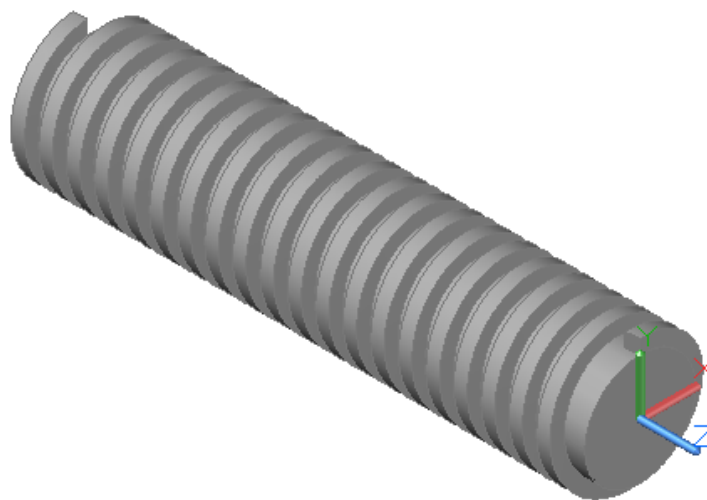

Figure Step 12
Step 12 Using the UNION command, union the two solids to form one solid model. (Figure Step 12)